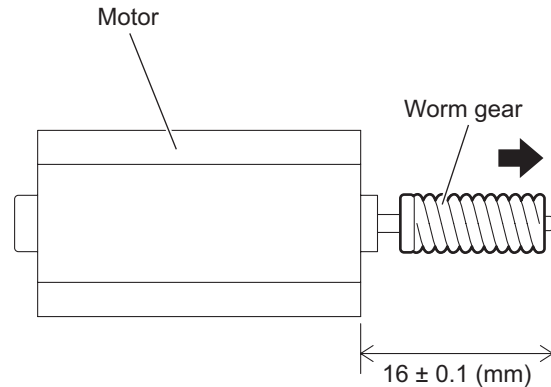

Fig.14
- (5) Pull the worm gear out of the motor. (See Fig.14.)
When inserting the worm gear in the shaft of the motor, insert it by a measurement of a rule. (See Fig.14.)